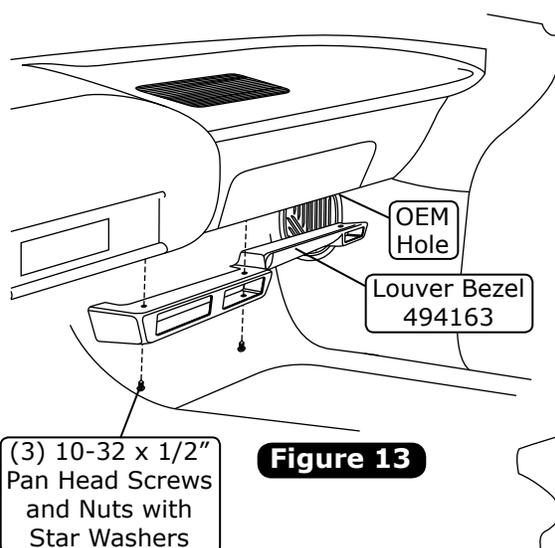

Figure 13
1. Place the louver bezel under the dash and align it with the OEM hole on the passenger side of the dash (See Figure 13, below).
2. Using the bezel as a guide, mark and drill (2) 3/16" holes under the dash.
3. Secure the louver bezel under the dash using (3) 10-32 x 1/2" pan head screws and (3) 10-32 nuts with star washers (See Figure 13, below).